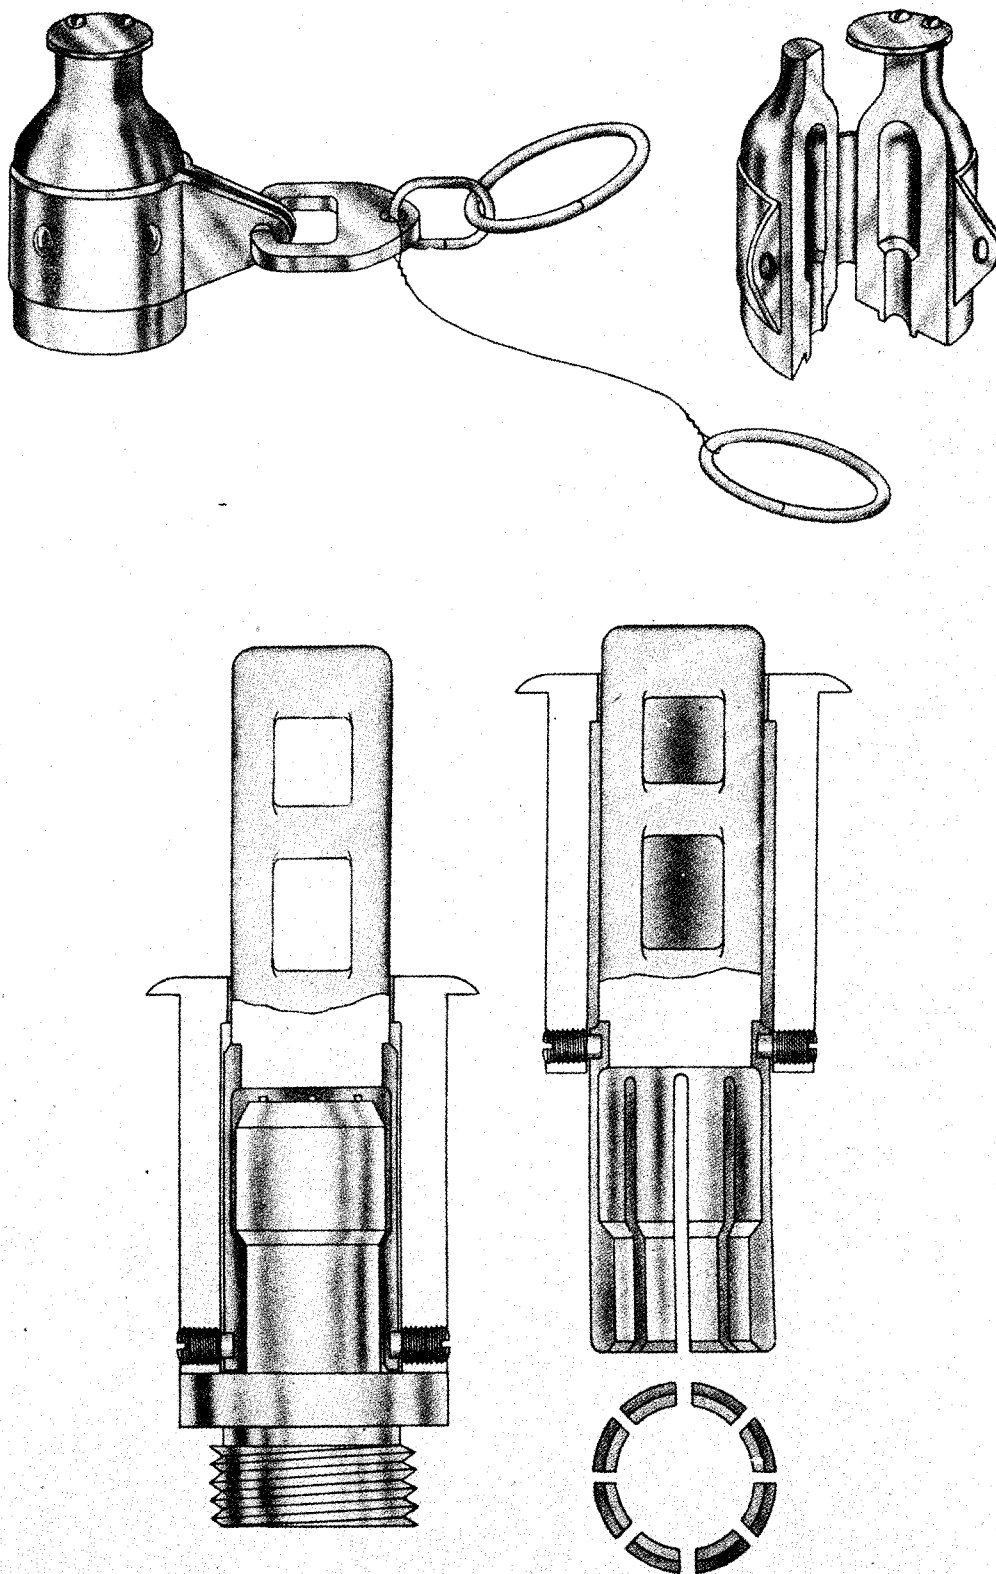

Figure 262 – Secondary Safety Devices
1. Safety device Model 1928: This device is incorporated with the 1928 and 1929 Models of the R. S. A. Fuze when used for horizontal suspension of 10 and 50-kg. bombs, and is shown at the top of Figure 262. It is also used in a slightly modified form with R. S. A. Fuze Model 1925. It consists of two symmetrical steel hoods joined by a band of spring steel. The interior of these hoods is shaped to conform with the contour of the fuze head. The safety device is closed by means of a clip to which cord and a ring are attached. The latter is attached to the ball-release cord, so that the clip is pulled away when the bomb is released. The safety device then opens during the descent of the bomb and falls away.
2. Safety device, Sch. R. ("Schneider-Raymondie"): This device, shown in the lower portion of figure 262, is used with R. S. A. Fuze Models 1928 and 1929, for vertical suspension of 10- and 50-kg. bombs. It consists of a steel sleeve through which passes the suspension lug. Attached to the base of the latter is a spring-steel collet, each steel strip having the projection to grip the fuze head. The sleeve can slide over the collet guided by two